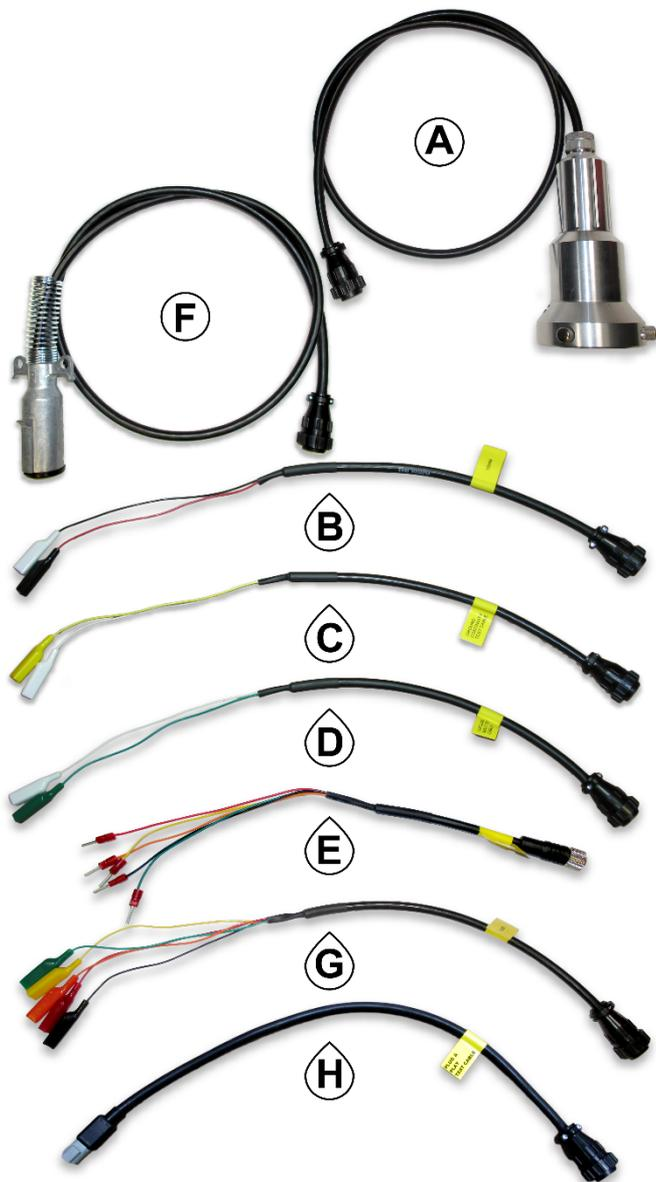

Fig. 2 ACCESSORY KIT CONTENTS
Step 2) Move the 3 J-slot thumb screws on the end of the API extension cable to match the socket it will be attached to. Refer to figure 2, on page 5.